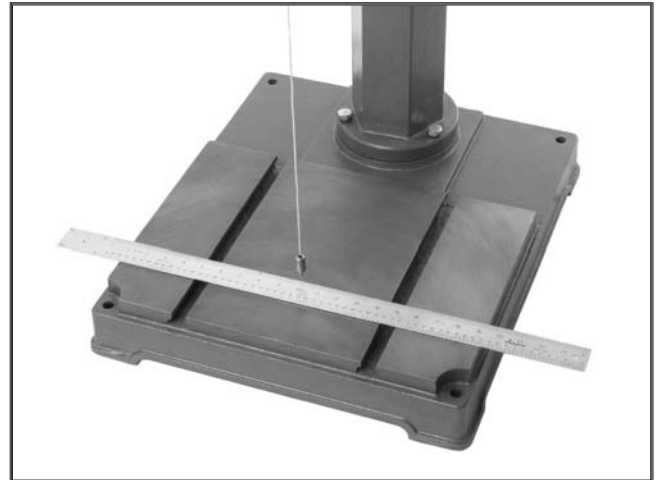

Figure 13. Aligning headstock with base.
7. Center the headstock directly over the base as indicated by the plumb bob and ruler, as shown in **Figure 13**.